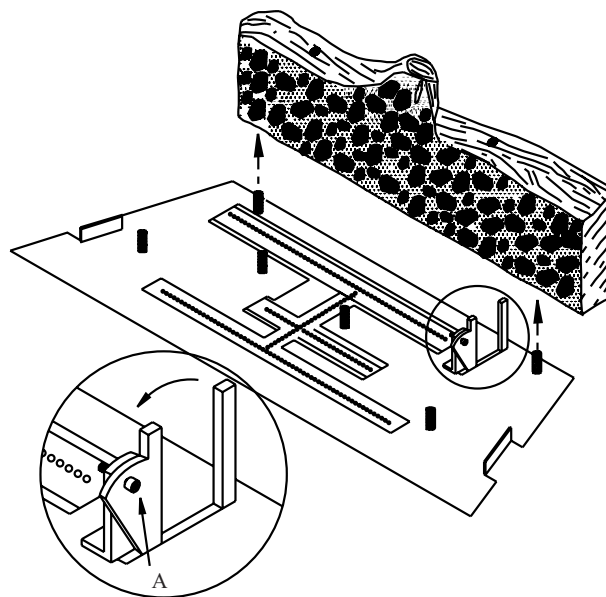

Figure 10
- 2) At the rear of the firebox is a log retainer (the circled area in **Figure 10**). This retainer can be rotated forward to increase the size of the flames in front of the rear log. Rotate the retainer by loosening screw A. For inserts burning propane the retainer may be rotated half the way forward. For inserts burning natural gas, the retainer may be rotated all the way forward. It may be necessary to try various setting to find the optimum one. Never rotate the retainer to such an extent as to cause sooting.
- 3) Align the holes in the bottom of the rear log (the longest log in the set) with the two pegs just to the rear of the rear burner tube and slide the log down onto the pegs. See **Figure 10**. The charred black surface of the log should face the front. (Continued on the following page).